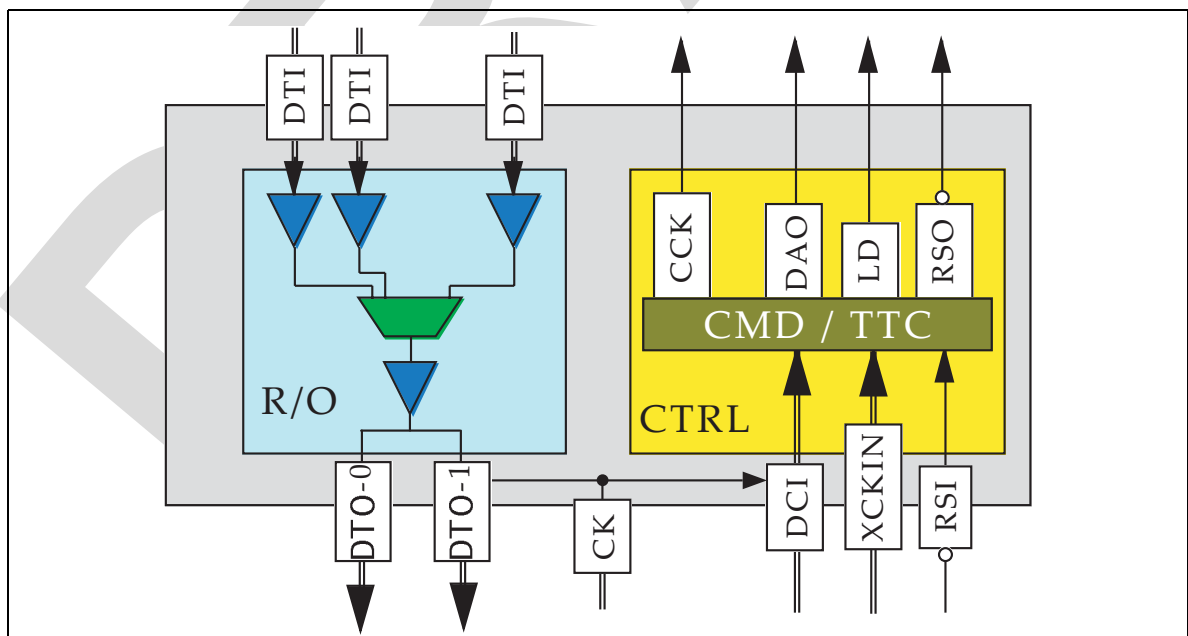

Figure 1-1 MCC signal used by the Event Read Out protocol
- Fig. 1-1** *p. 1* *MCC* signal used by the Event Read Out protocol
MCC signals that are active during data acquisition are graphically represented in Figure 1-1: